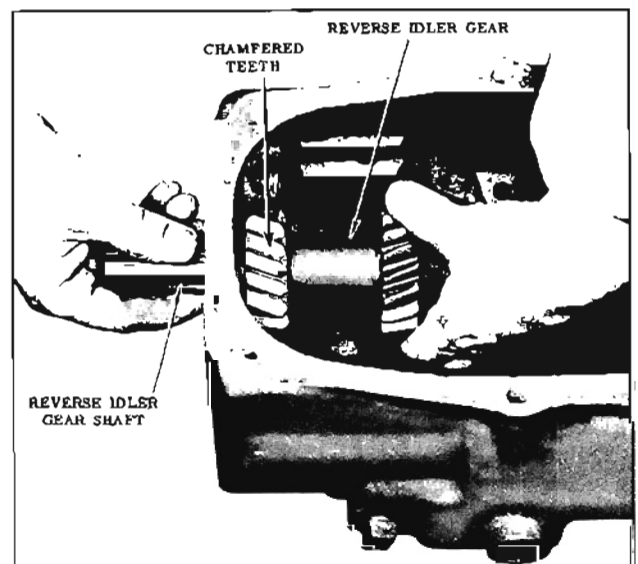

Fig. 7-28 Installing Reverse Idler Shaft
- a. Position the reverse idler gear and bronze thrust washers into the case (chamfered teeth to the rear of the case), then install the idler gear shaft (slotted end out) until the front of the shaft picks up the front thrust washer and just starts into the inner support in the case. (Fig. 7-28)